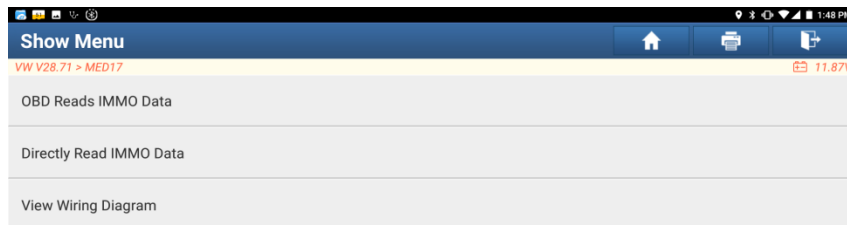

Figure 9
3.2.5 Click [Direct Wiring Diagram], as shown in Figure 9 and 10. Please connect ECU and the diagnostic device by using X431 harness according to the wiring diagram, as shown in Figure 11.